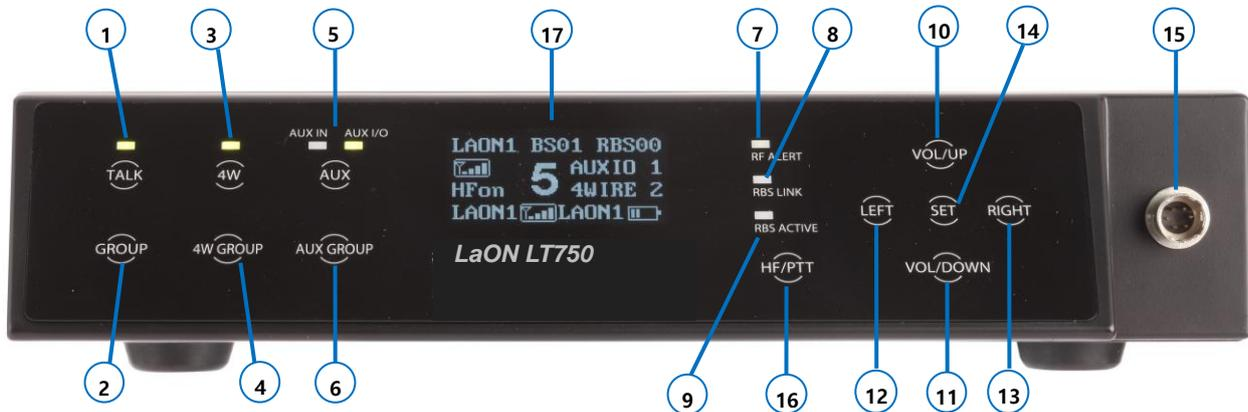

Figure 3-2. Front Panel of the Base Station
Step 4: Press the POWER switch (#5) on the rear panel of the Base Station to turn on the Base Station. 'DFS detecting' will be indicated on the Base Station's front panel display and once the detecting is completed, NORMAL menu will pop up as shown in Figure 3-3: The green light on top of the TALK button (#1), as shown in the Figure 3-2, should be flashing slowly indicating the readiness of Base Station to start operations.